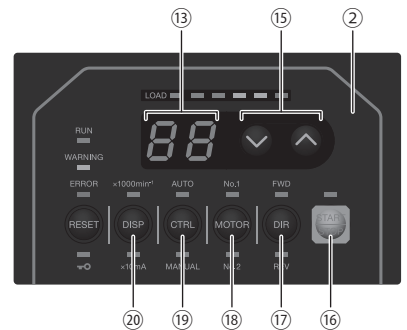

Fig. 20
15 - 2 Select Control Mode (MANUAL / AUTO). (Select the Control Button (CTRL) ¹⁹ of the Fig. 20.)
Set Motor Rotating Direction (Set the Rotation Direction Button (DIR) ¹⁷ of the Fig. 20.)
Select the motor spindle to be controlled. (Motor Spindle Selection (MOTOR) Button ¹⁸ of the Fig. 20.) If motor spindle No. 1 was selected, No. 1 LED turns on. If motor spindle No. 2 was selected, No. 2 LED turns on.
- (3) Motor Start / Stop (Motor Start / Stop by pushing the START / STOP Button (START / STOP) ¹⁶ of the Fig. 20.)
(4) Setting Motor Speed
Setting Motor Speed (Set the Motor Speed Adjustment Button (SPEED  , ) ⑮ of the Fig. 20.)